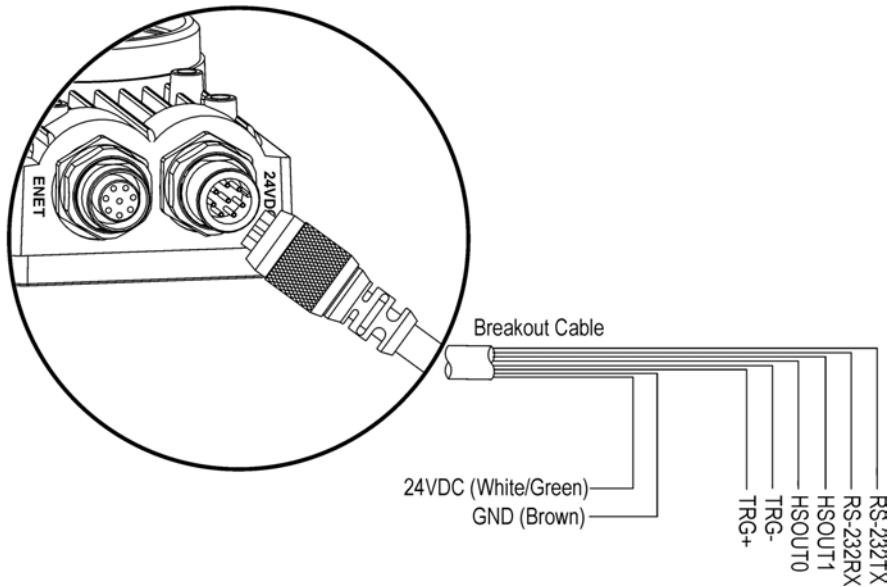

Figure 3-4: Power Connections
4. Connect the power supply to the Breakout cable (Figure 3-4). Attach the Breakout cable to the 24VDC connector on the sensor.